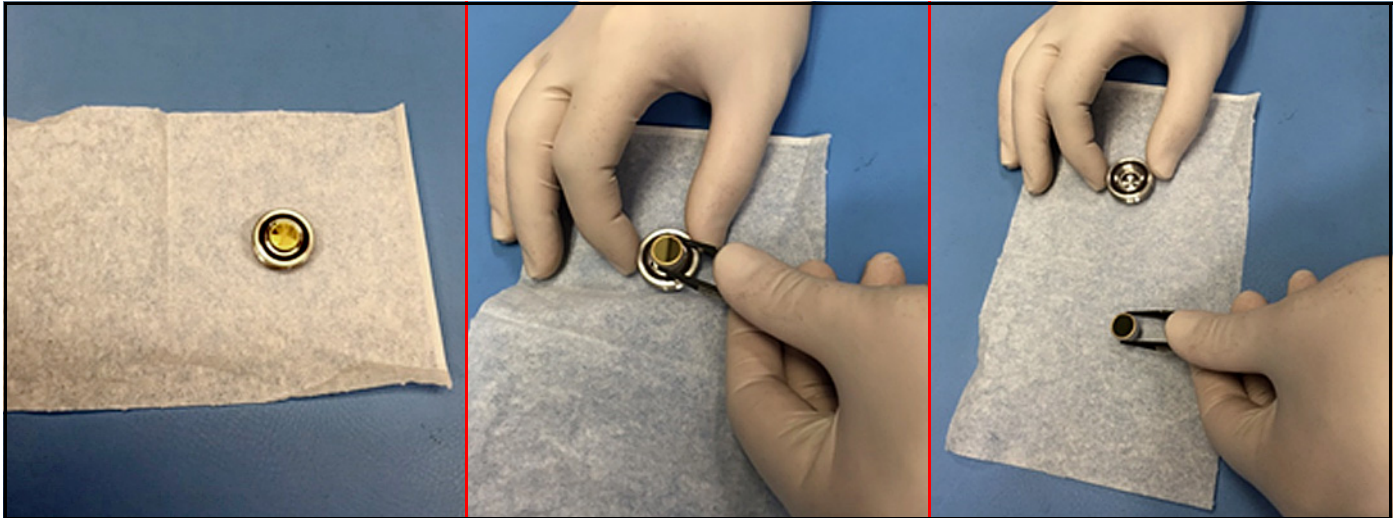

Figure 93: Inspecting the Mirror Assembly
3. Gently place the extracted mirror assembly on a clean lens tissue. Using a pair of plastic-tipped tweezers gently extract the 0.5" diameter mirror from the end cap, taking care not to touch, squeeze or nick the two O-rings in the end cap assembly (see *Figure 93* below).